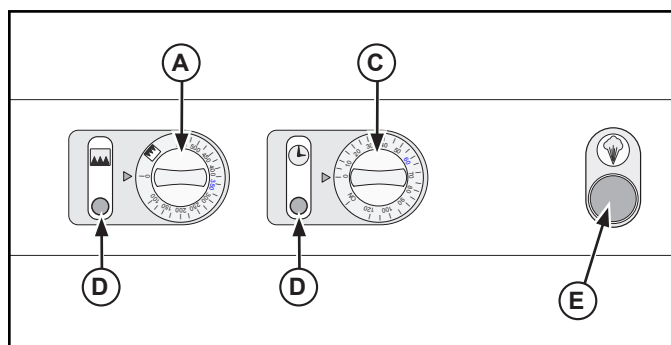

Figure 2. 40702 Controls.
1. Press the mist control  button (E) to activate a spray of water into the cooking chamber. See Figure 2. Do not press the button longer than 2-second pulses.